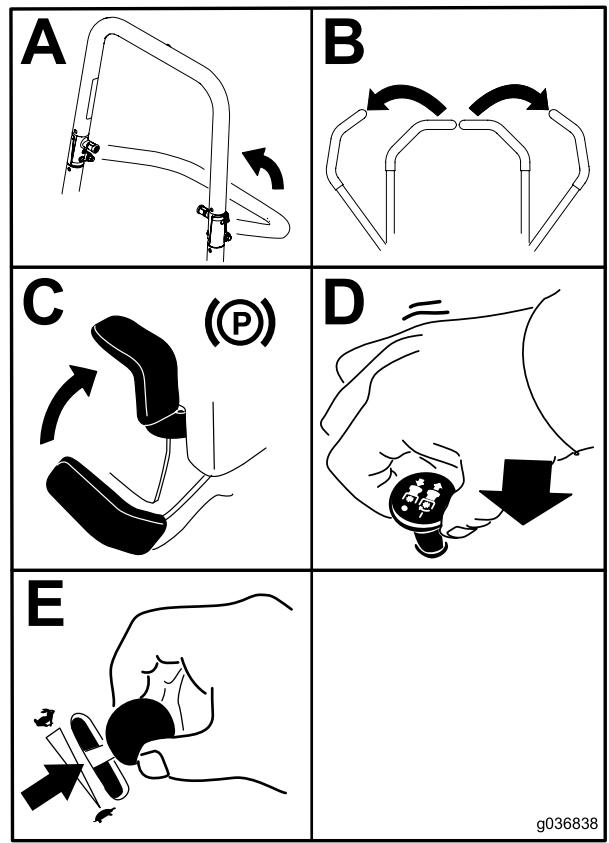

Figure 23
- Move the blade-control switch (PTO) to the OFF position (Figure 23).